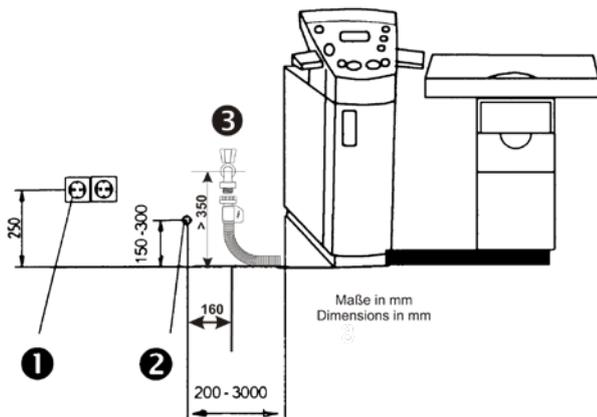
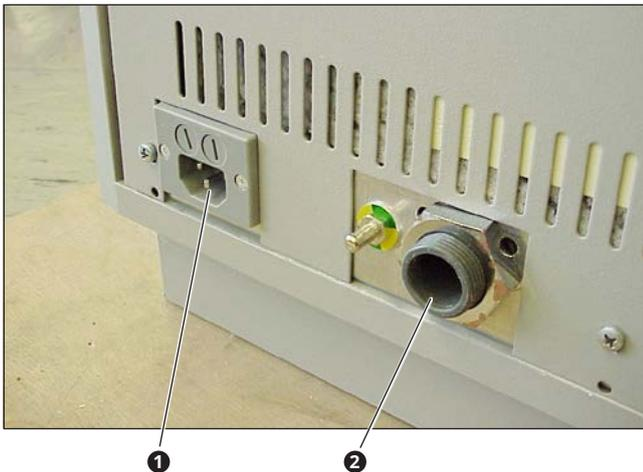

Fig. 3.
Fig. 4.
- ❶ Inlet connector for non-heating apparatus
- ❷ Connection for waste water hose
- The ATMOS C 21 / C 31 is connected to a earthing contact socket which is to be mounted near the unit (max. 3 m, preferably on the left side, next to the function column) (see fig. 3).
- Connect waste water hose with unit (❷, fig. 4) and the G3/4" connection fitting (insert pertaining seals!).
- Join the inlet connector for non-heating apparatus (❶, fig. 4) with the earth socket outlet using the power cable supplied.
- Connect the waste water connector (❷, fig. 4) to the water drain (❷, fig. 3).